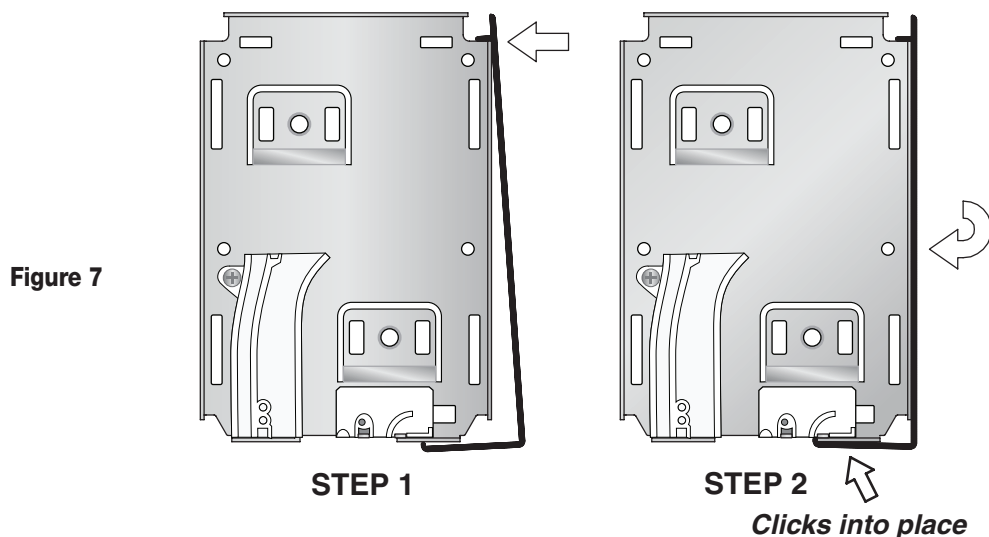

Figure 7
1. Place groove along top of fascia over endcaps, and snap into place (Fig. 7). Fascia is not fully seated until it clicks into place on both ends.